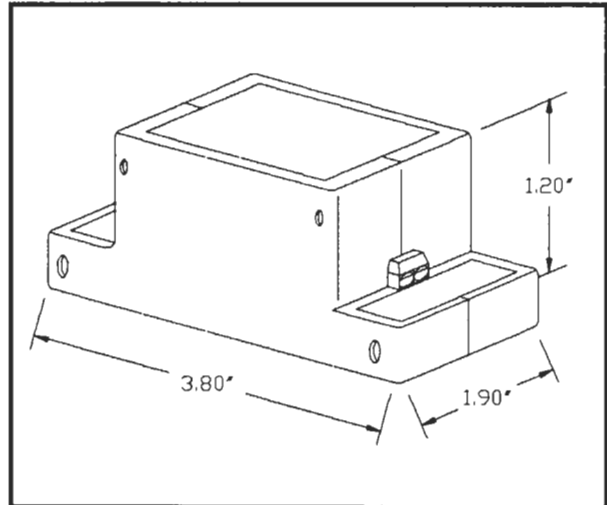

Fig. 1, Dimensions
**DIMENSIONS:** 3.80"L x 1.90"W x 1.20"H (See Fig. 1)